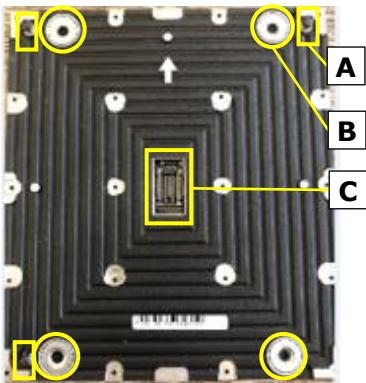

Figure 65: Pixel Card
Pixel cards use a combination of magnets (Figure 65, B), corner click-pins (A) and the Pixel card connector (C) to attach to the cabinets.